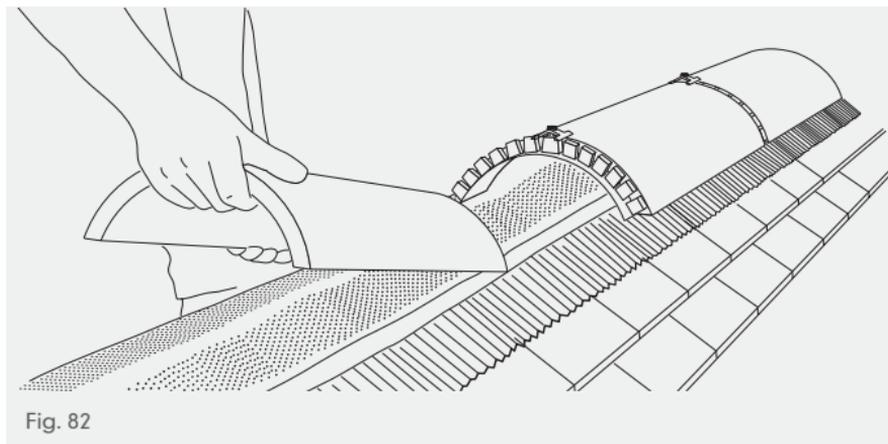

Fig. 82
- 8 When the union clamp is fully engaged in the ridge union, it may create an interference fit with the sub-structure. In this case, the protruding length of the clamp can be snapped off or folded below the ridge union flange (Fig. 82).